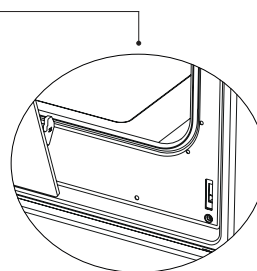

Figure 21.2
4. To remove the oven door, pull it upwards by holding it with both hands when close to the closed position as shown in figure 21.2.